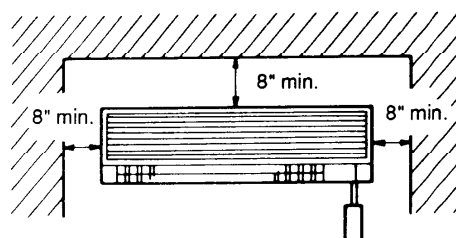

Fig. 3
- allow room for operation and maintenance as well as unrestricted air flow around the unit. Fig. 3